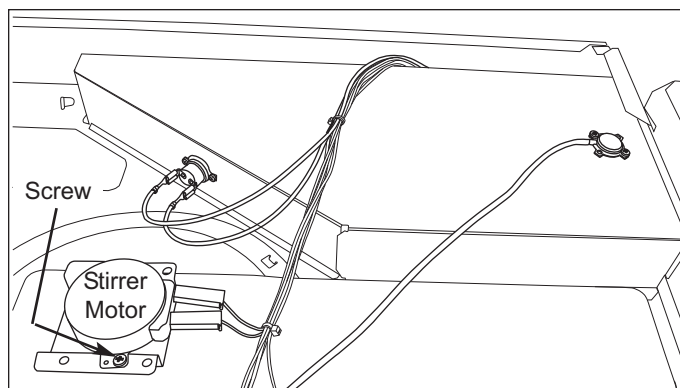

Figure 4-5. Upper Components
3. Using a phillips screwdriver, remove the two mounting screws (one on each side of the stirrer motor) that fasten the stirrer motor assembly to the top of the unit (See Figure 4-5).